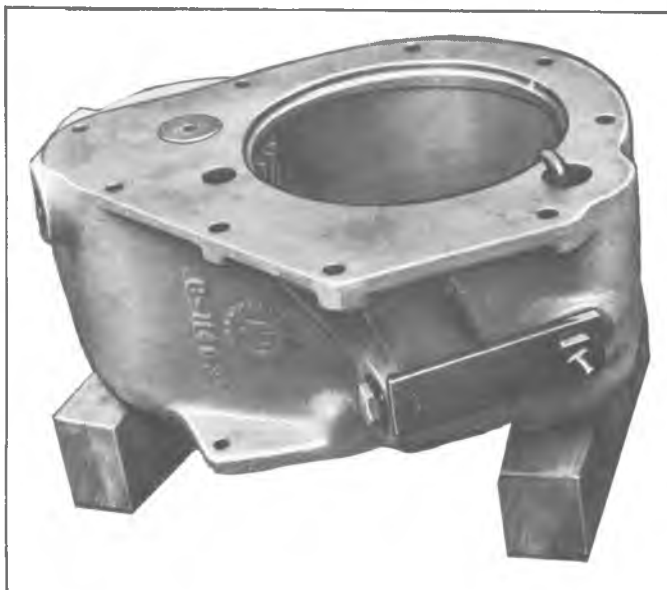

Fig. 20F—Positioning Range Box for Assembly
1. Place range box on blocks, with input gear side toward bench (fig. 20F).